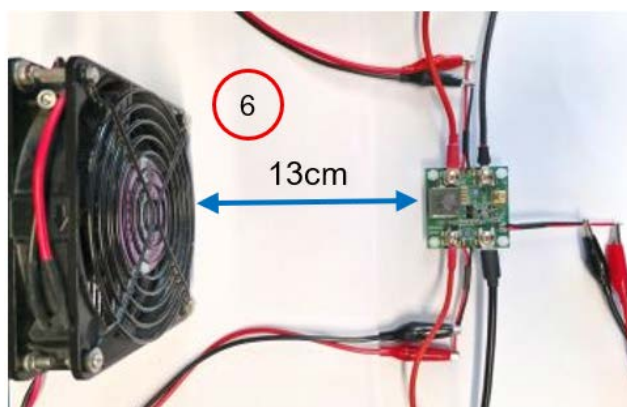

Figure 14. Axial Fan Airflow
7. Place an axial fan (NMB: 4710PS-22T-B30) 13cm from the evaluation board and provide an air flow of 63.5 CFM as shown in item 6 of Figure 14.